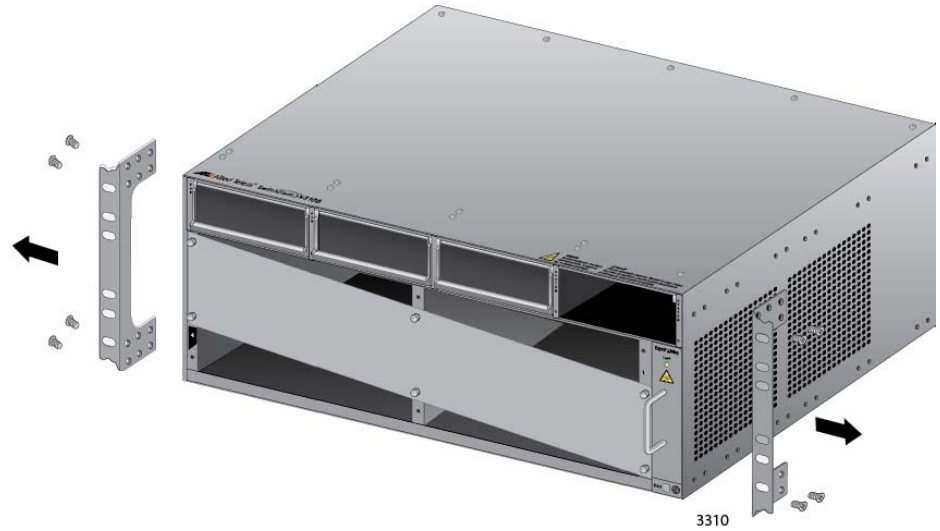

Figure 14. Removing the Equipment Rack Brackets
1. With a #2 Phillips-head screwdriver, remove the two pre-installed rack mount brackets from the sides of the chassis. Refer to Figure 14 on page 33.